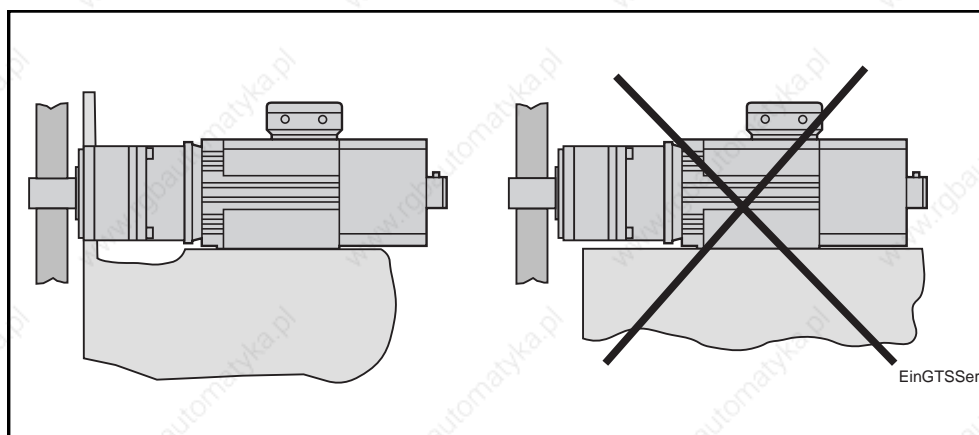

Fig 3.2: Mounting the motor-gear unit
- Existing bases on motors should only be used to support the gearbox/motor unit. Stresses resulting from operation should be fed over the gear flange into the machine understructure (see Figure 3.2).